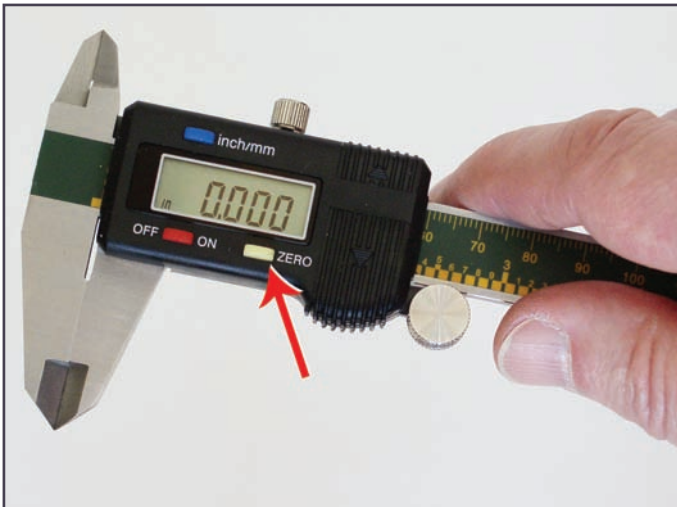

Figure 4: Zeroing a digital caliper is easy: Just press the zero button and you're ready to take your measurement.
- To zero a digital caliper, just press the "zero" button (figure 4).